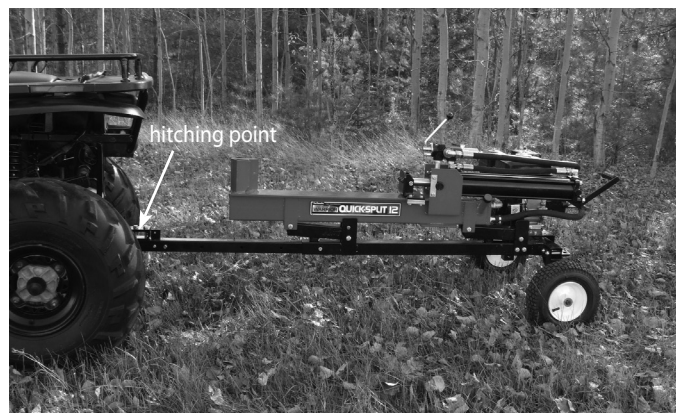

Figure 30
4. Make sure the beam is in the lowest position (Transport Position--**SEE FIGURE 30**) and the locking pin is securely attached before towing your log splitter.